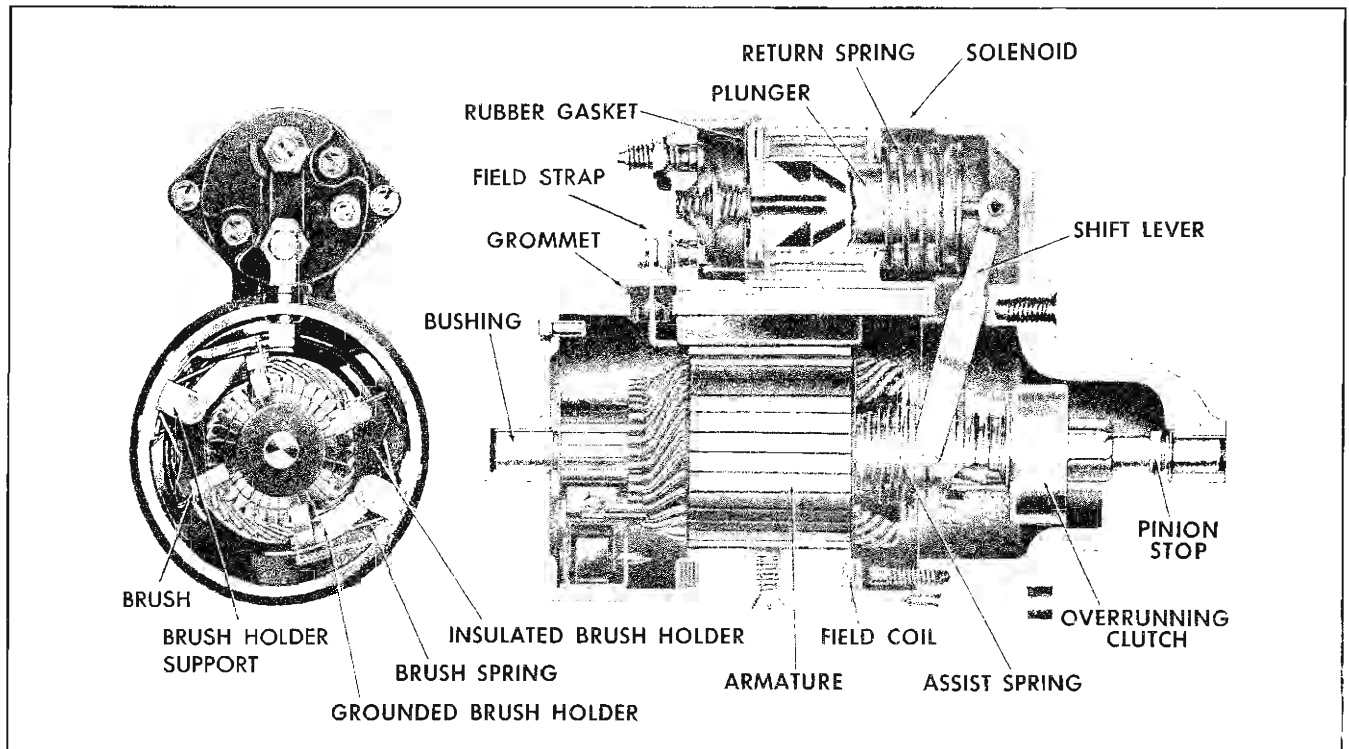

Fig. 11-5 Cross Section of Starting Motor
The enclosed shift lever starting motor (Fig. 11-5) is a 12-volt extruded frame type unit.
1. Disconnect the field strap (Fig. 11-5) from terminal on solenoid.